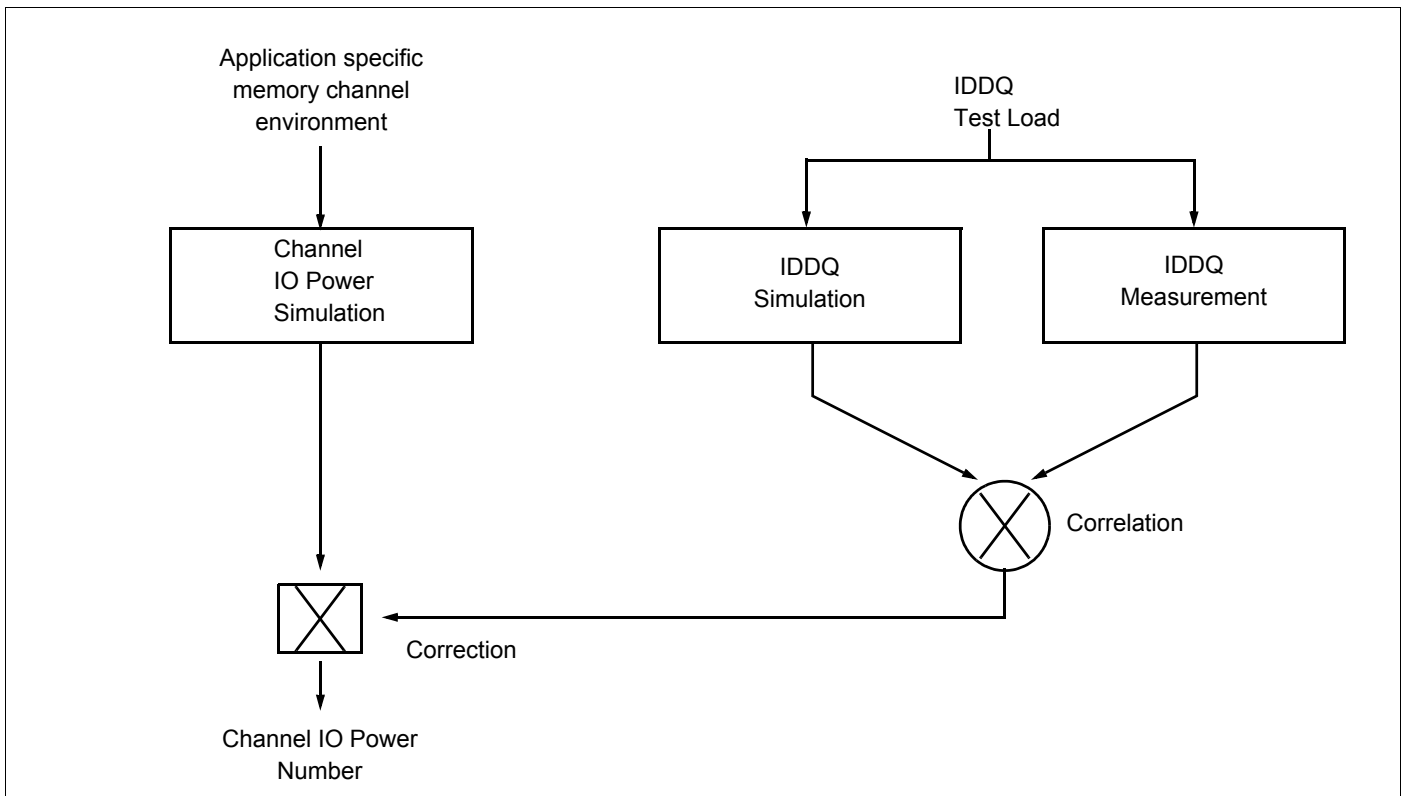

Figure 20 :Correlation from simulated Channel IO Power to actual Channel IO Power supported by IDDQ Measurement.
**Attention** : IDDQ values cannot be directly used to calculate IO power of the DDR3 SDRAM. They can be used to support correlation of simulated IO power to actual IO power as outlined in Figure 20. In DRAM module application, IDDQ cannot be measured separately since  $V_{DD}$  and  $V_{DDQ}$  are using one merged-power layer in Module PCB.